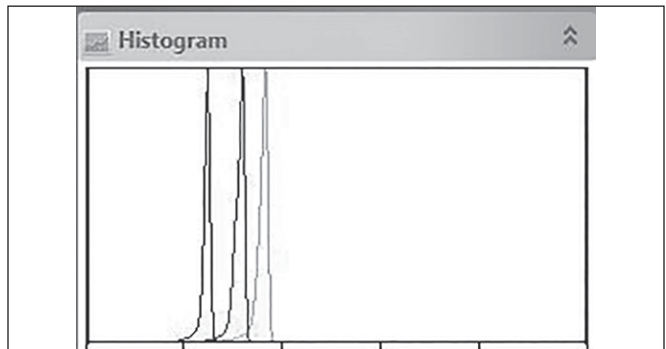

Figure 6a. Live histogram with "humps" in the normal range (left of center) for a target deep sky exposure
5. The histogram shows a graphical representation of the number and brightness of the pixels in the image. The far left of the histogram is black, or no light on a given pixel, and the far right is full white, or fully maxed brightness for those pixels. A normal astrophoto has a lot of black in it, so the histogram bump should be left of center (approximately near the left 1/4 to 1/3 of the histogram for the hump) for a properly exposed photo of a nebulae with a lot of black sky around it (**Figure 6a**). If the hump is too far to the right, either the exposure or the gain is set too high, and you're recording too much background light pollution.